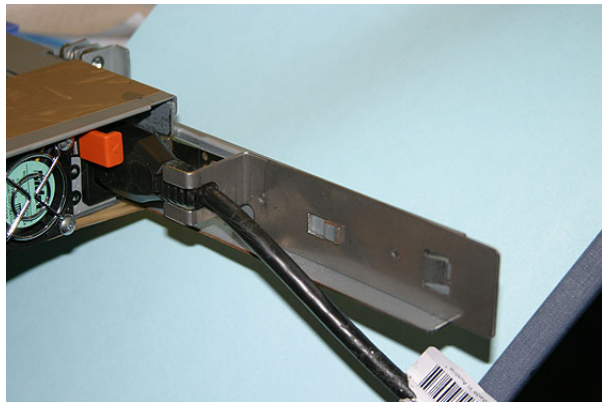

Figure 46. SAN Volume Controller 2145-8F4 with cable-retention bracket attached
3. Position the cable retention bracket against the support rail and attach the bracket onto the slot in the rear of the rail. Figure 46 provides a view of the cable retention bracket that is attached to the SAN Volume Controller 2145-8F4.